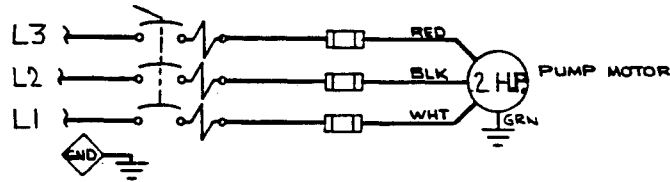
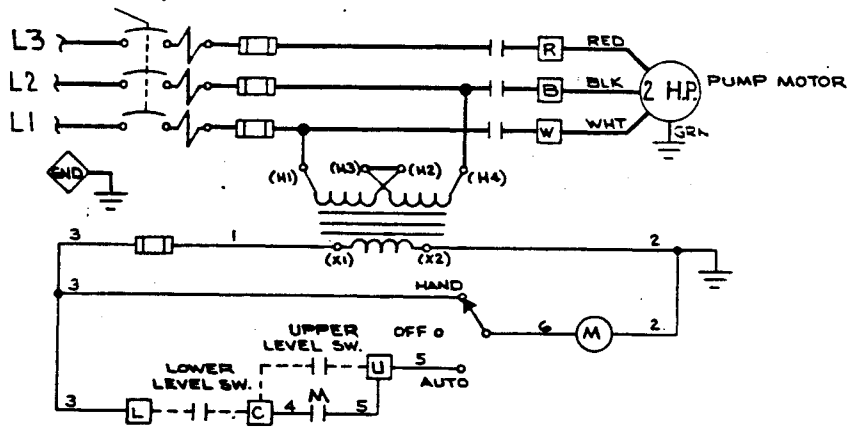
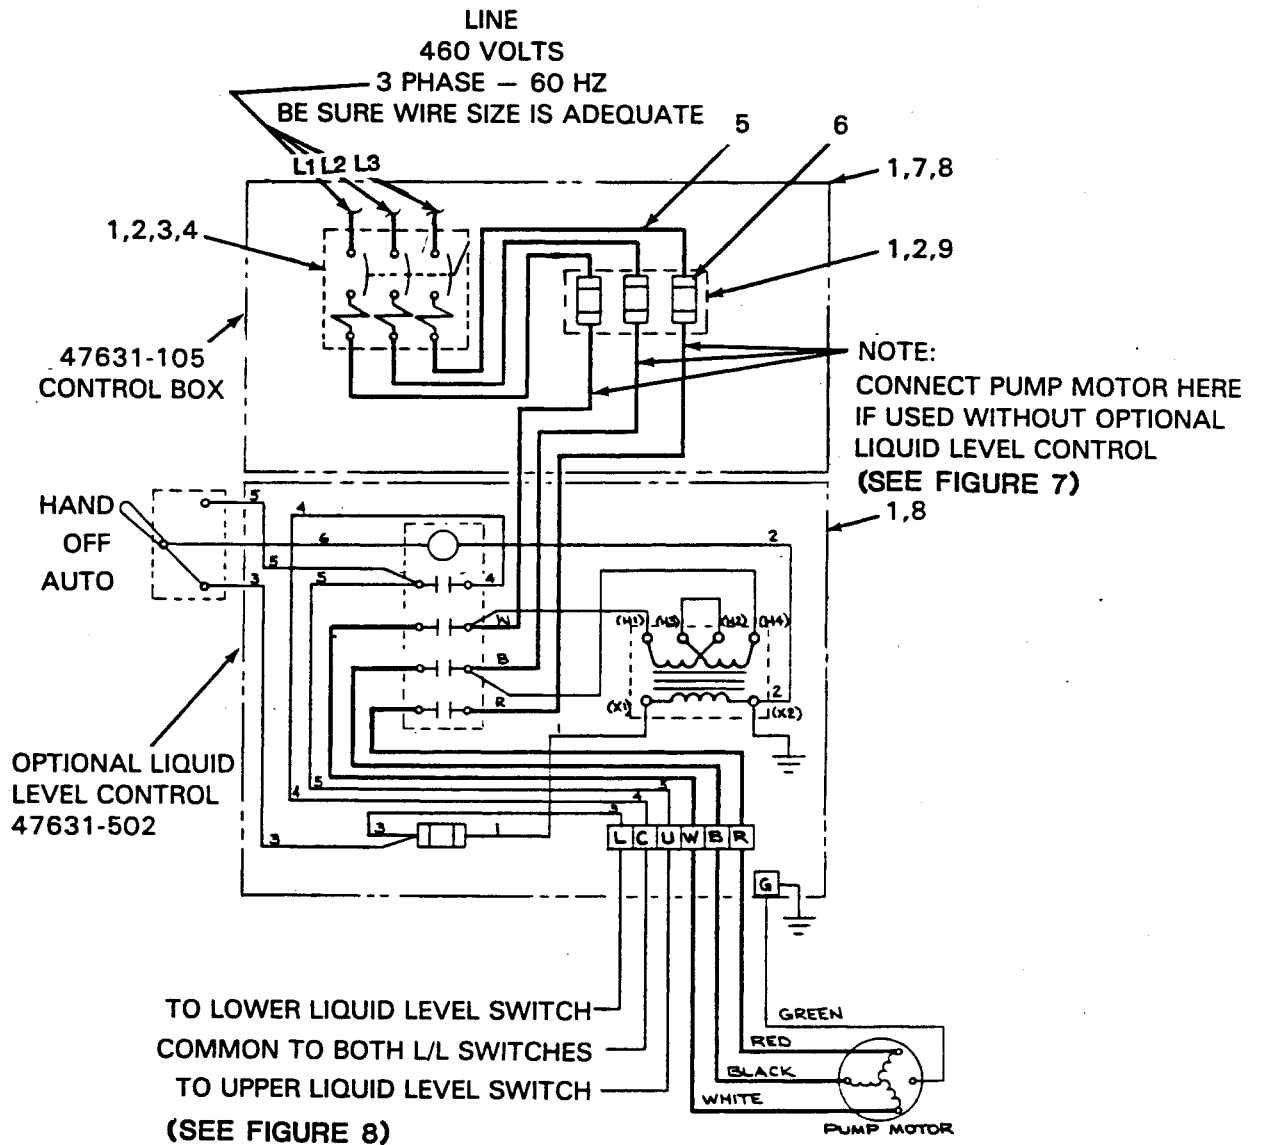

Figure 7. Elementary Wiring Diagram (Without Liquid Level Controls)
Figure 8. Elementary Wiring Diagram (With Liquid Level Controls)
Figure 9. 47631-105 Control Box Assembly - Pictorial Wiring Diagram
- a. Measure the incoming voltage across lines (1 & 2, 2 & 3, and 1 & 3, or 1 & 2 if 1 phase is installed.) while the pump is operating at full capacity. See Figure 7 on page B-15 or Figure 9 on page B-16.
Connect the pump power cable to the control box as shown in Figure 7 on page B-15 or Figure 9 on page B-16. Use conduit or cable clamps to secure the power and accessory cables to the control box. Make certain that all connections are tight and that cable entry points are rainproof.
If liquid level controls are to be installed, connect the motor power cables and level control power cables as shown in Figure 8 and Figure 9 on page B-16.
See Figure 9 on page B-16 for a pictorial wiring diagram and callouts of the control box assembly internal parts.